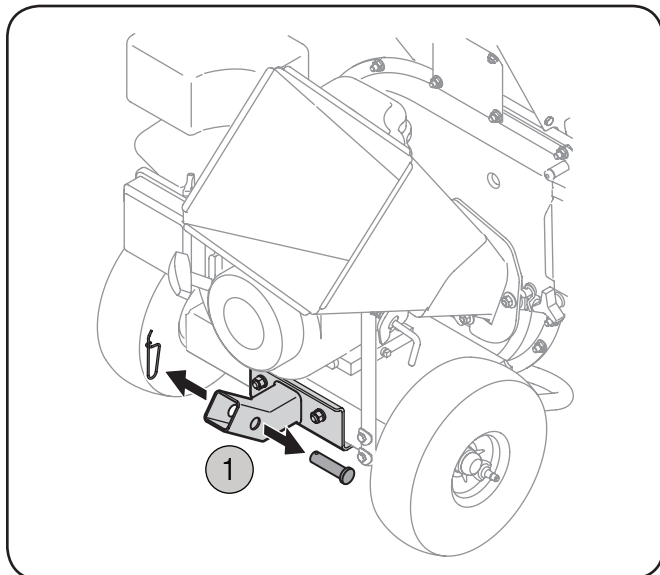

Figure 3-3
1. Remove the spring pin and clevis pin from the end of the tongue. See Fig. 3-3.